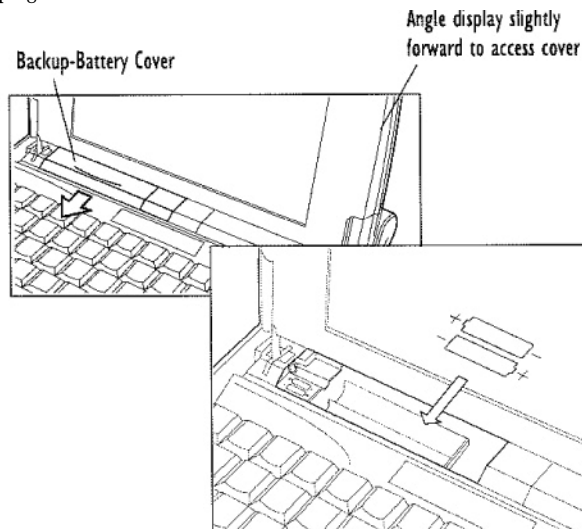

Figure 3: Inserting backup batteries
2. Open the battery compartment (Figure 3). The backup battery cover is located on the top left of the keyboard. Angle the programmer screen forward to provide access to the cover. Apply downward pressure to the center of the battery cover and slide it toward the front of the programmer.